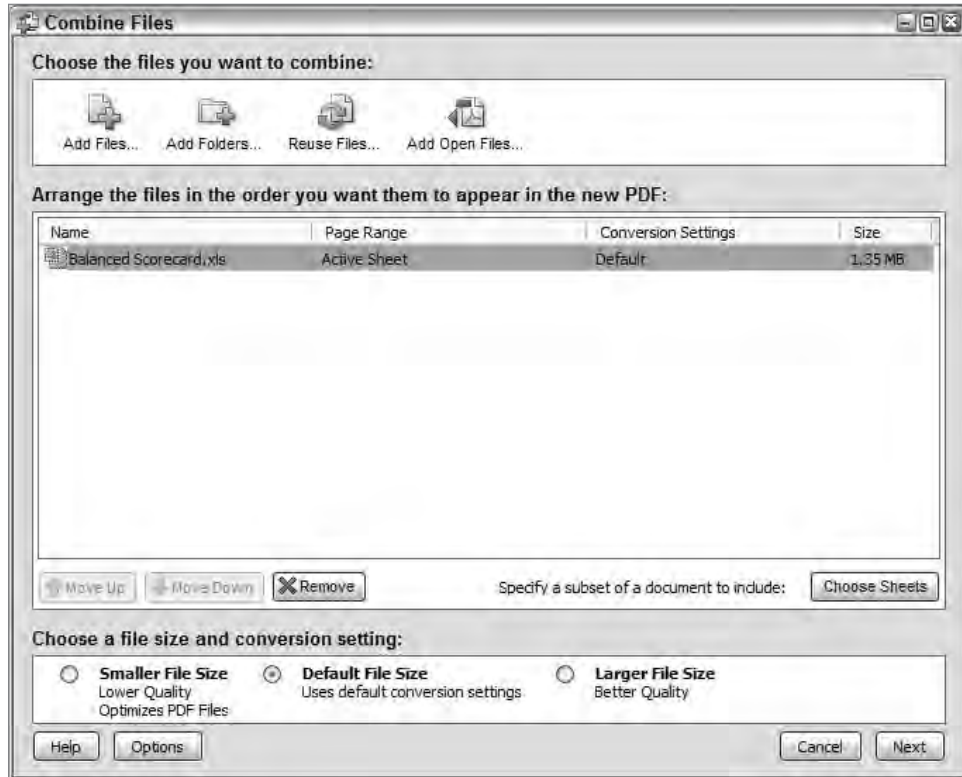

Figure 29.9: Select the workbooks and other files in the Combine Files dialog box.
6. Choose the Add Files button and then select the file(s) containing your Balanced Scorecard and the other documents you want included in the Balanced Scorecard PDF. Choose Add Files. Figure 29.9 shows the Combine Files dialog box.